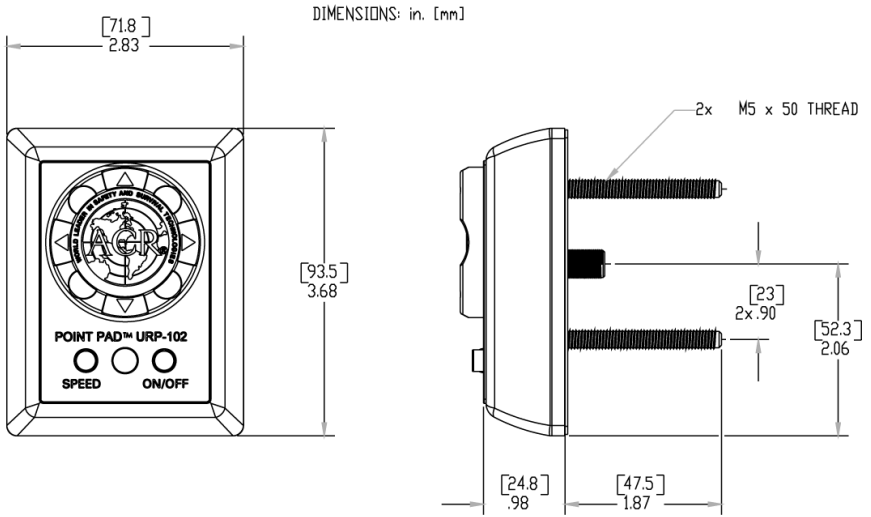
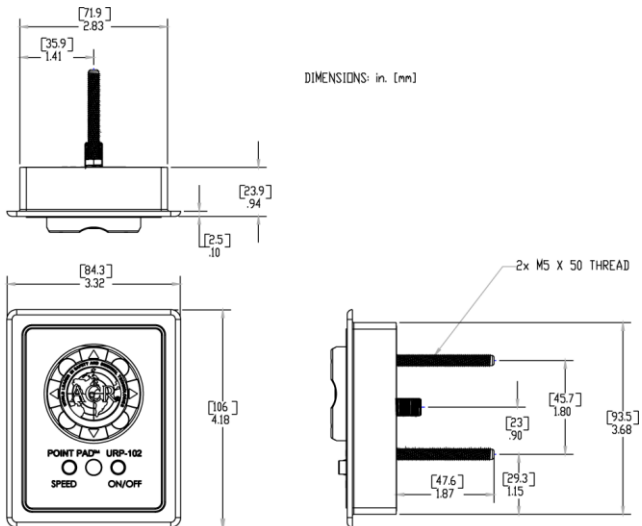

Figure 3 - URP-102 Point Pad™ Surface Mount Case
Figure 4 - URP-102 Point Pad™ Flush Mount Case
The URP-102 Point Pad™ is supplied as a surface mount unit (see *Figure 3*). A flush mount option is provided (see *Figure 4*). To switch mounting options, unscrew the six (6) screws on the unit's back plate and remove the front cover. Fit the Point Pad™ with the flush mount cover, replace the back plate, and screw the unit back together.